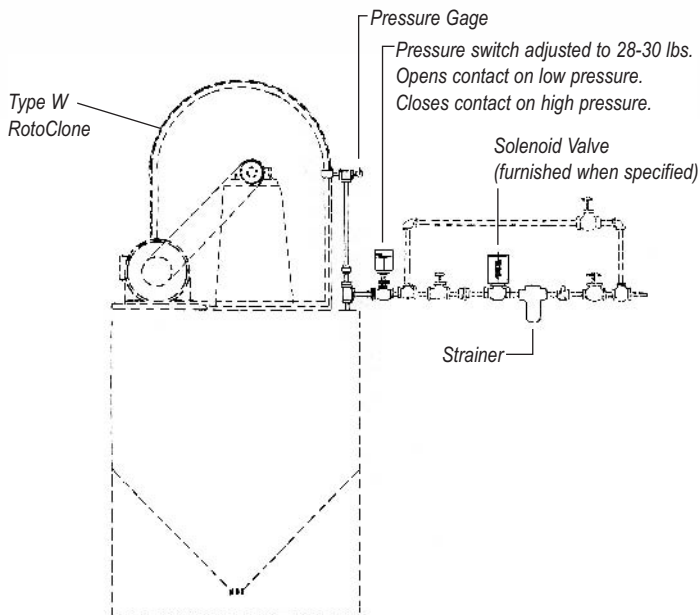

Figure 4 — Piping Diagram, Arrangements A and D
**A by-pass connection with manual valve per Figure 4 (both Arrangement A and D) may be included to safeguard operation of RotoClone in case of solenoid valve failure or for strainer maintenance.**